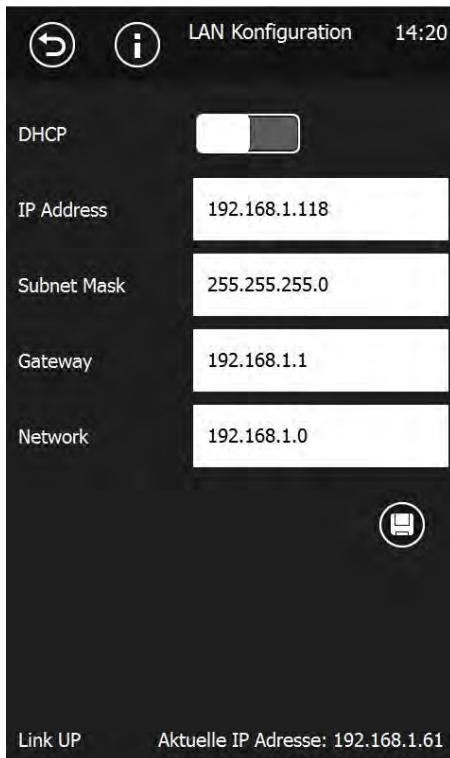

Fig. 10: LAN network configuration
7. Enter the values for (see *Fig. 10*)
The current connection status is displayed at the bottom edge of the screen (see *Fig. 10*)